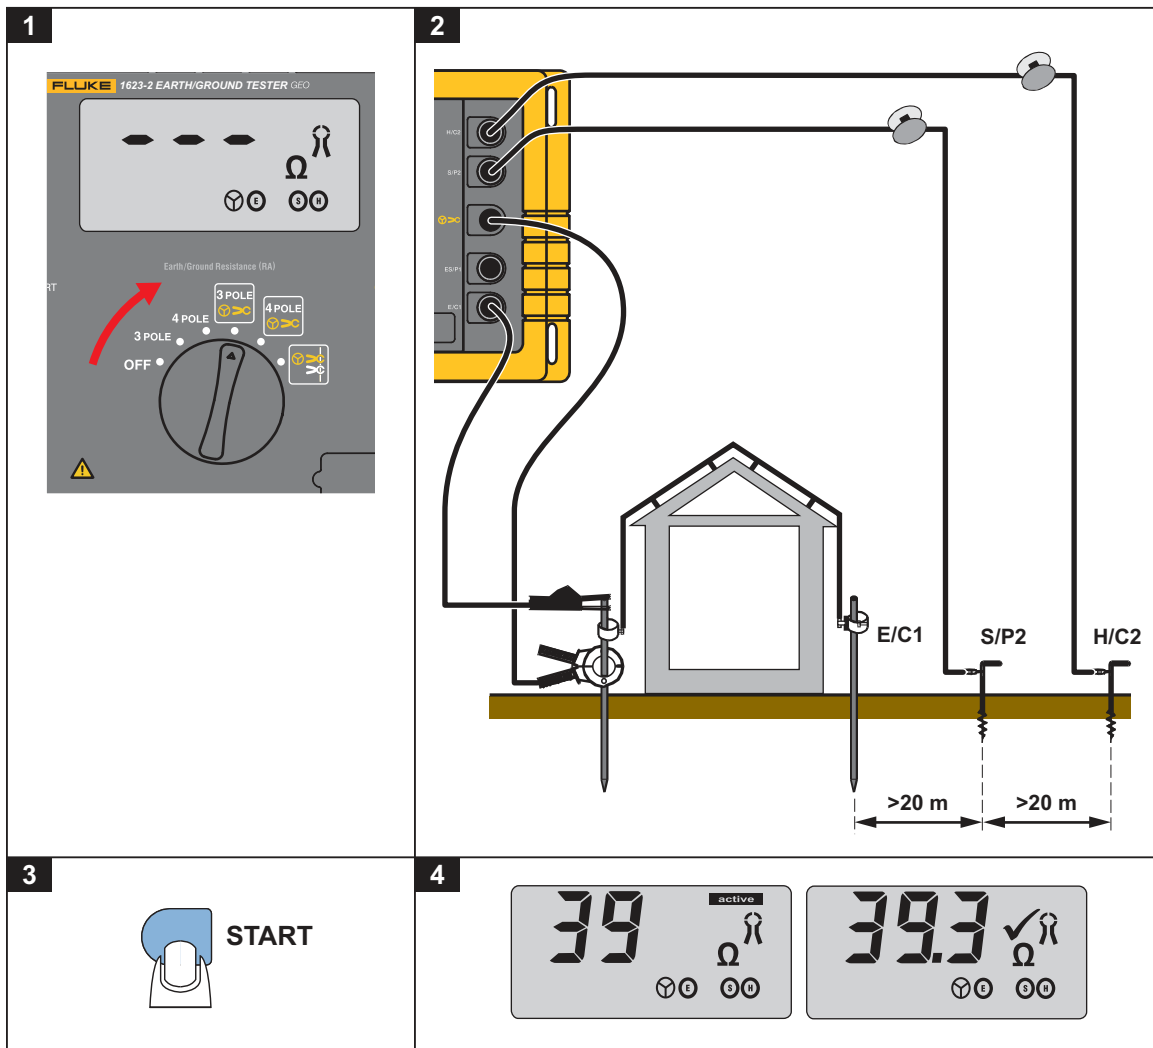

Figure 6.  $R_A$  3-Pole Selective Earth Resistance Measurement with Current Clamp
1. Select **3 POLE**  . See Figure 6.